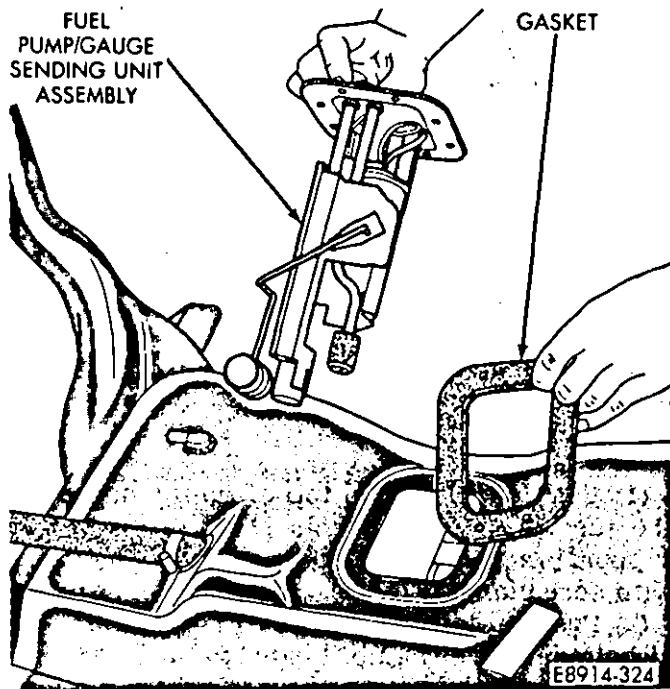

Fig. 16—Fuel Pump/Gauge Sending Unit Removal/Installation
(5) Carefully pull fuel pump/sender unit out from the fuel tank. It will be necessary to tilt the unit forward and backwards to allow the fuel filter and float arm room for removal. Note the position of gasket for correct reassembly (Fig. 16).